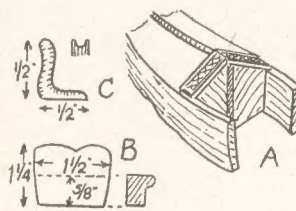

Fig. 3—Shape at the prow
At this particular part a decorative strip, or rather two separate strips, is glued, as in detail (A) Fig. 3. These strips are cut $\frac{3}{8}$ in. wide, from the $\frac{1}{8}$ in. fretwood, and glued in place, being mitred together neatly where they meet at the centre. A little carving is done to these with a file or penknife, as in the diagram, nothing elaborate being attempted, just